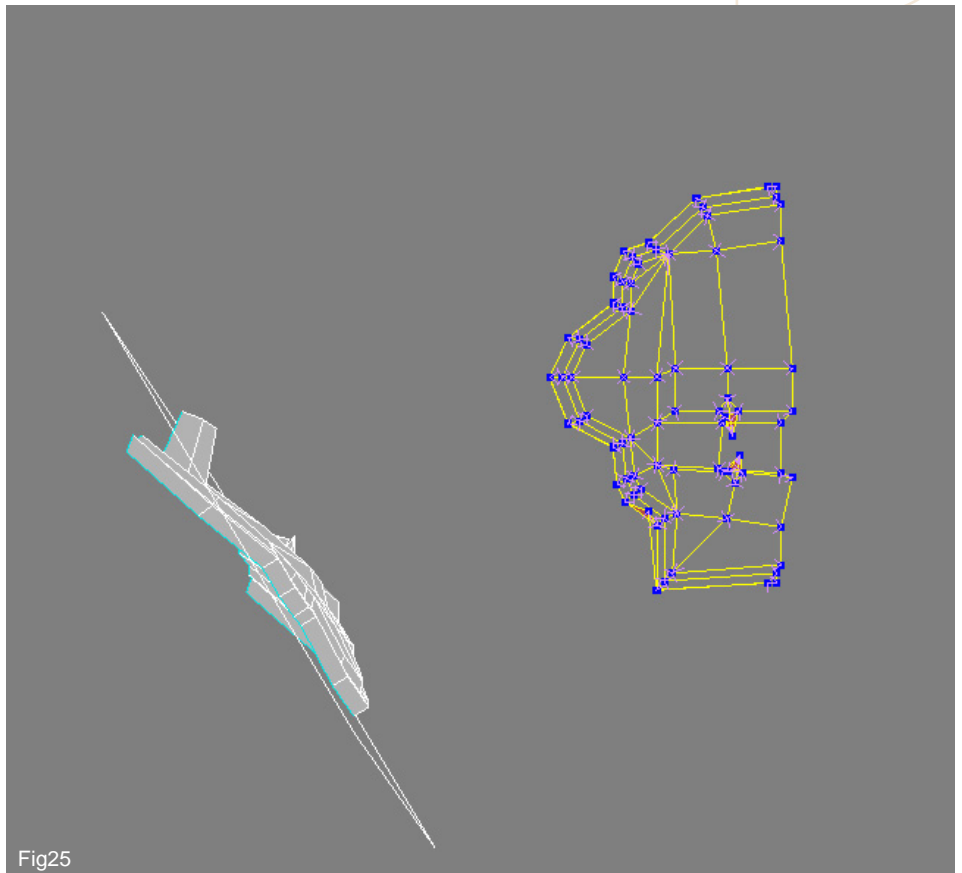

Fig25
25. Now we can map both sides of the half with planar sub-projections, like shown in Fig25.